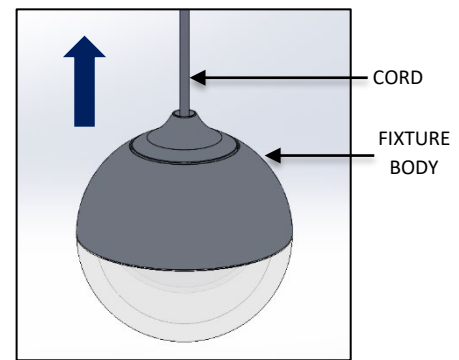

FIG. 24 - FIXTURE INSTALLATION
2. Raise the GLOWBALL FIXTURE and pass the cord through MOUNTING BRACKET as shown below in FIG. 24. Adjust fixture drop to desired height.